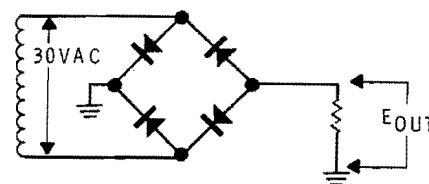

Figure 4-65
3. Refer to Figure 4-65.  $E_{out}$  will have an average value of:
- C. Figure 4-65.